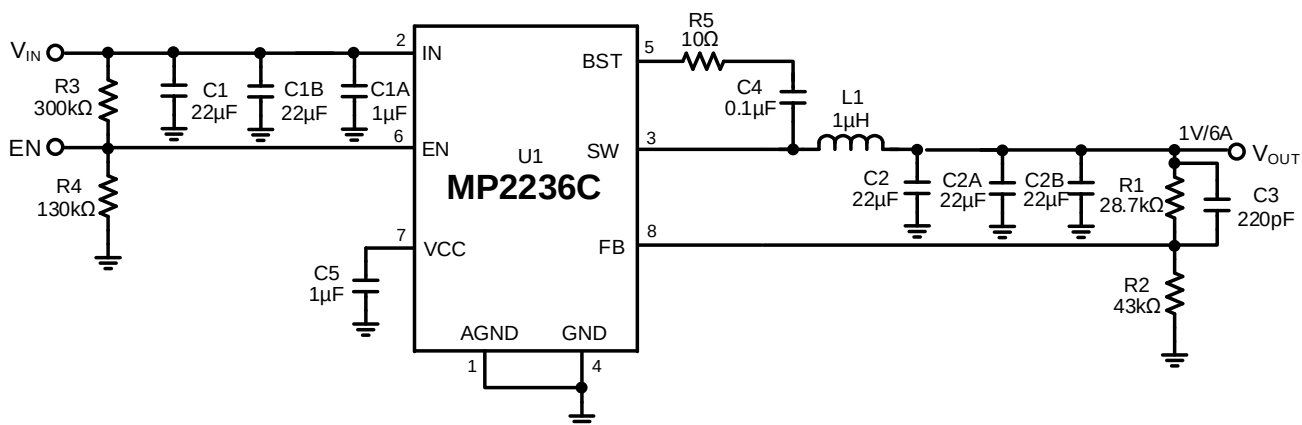
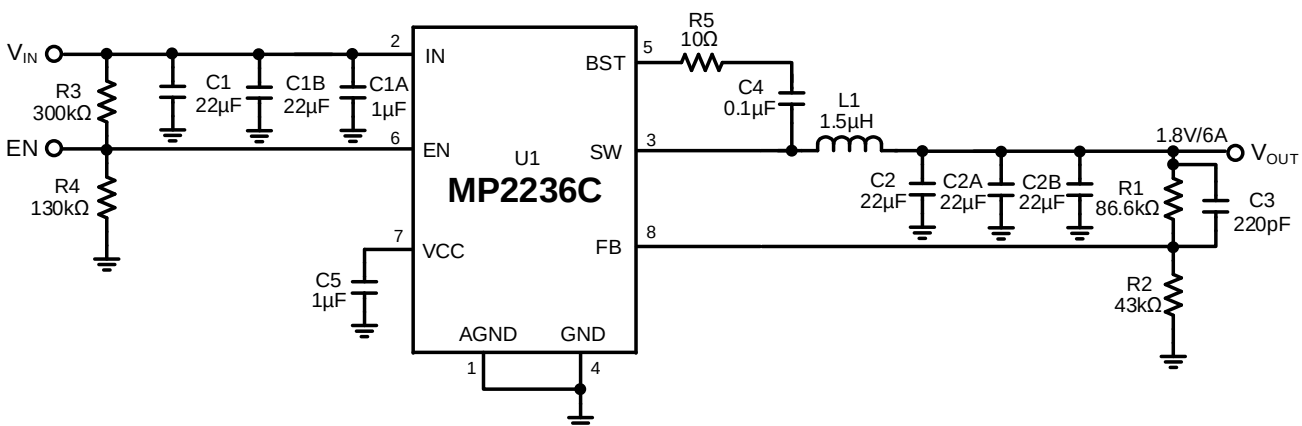

Figure 6: Typical Application Circuit (12V  $V_{IN}$ , 1V/6A Output)
Figure 7: Typical Application Circuit (12V  $V_{IN}$ , 1.8V/6A Output)
For the detailed application schematics, see Figure 6, Figure 7, Figure 8, Figure 9, and Figure 10 on pages 17 and 18. For the typical performance and circuit waveforms, see the Typical Performance Characteristics section on page 8. For more device applications, refer to the related evaluation board datasheets.
- 9) The recommended layout is based on the Typical Application Circuits shown in Figure 6, Figure 7, Figure 8, Figure 9, and Figure 10 on pages 17 and 18.